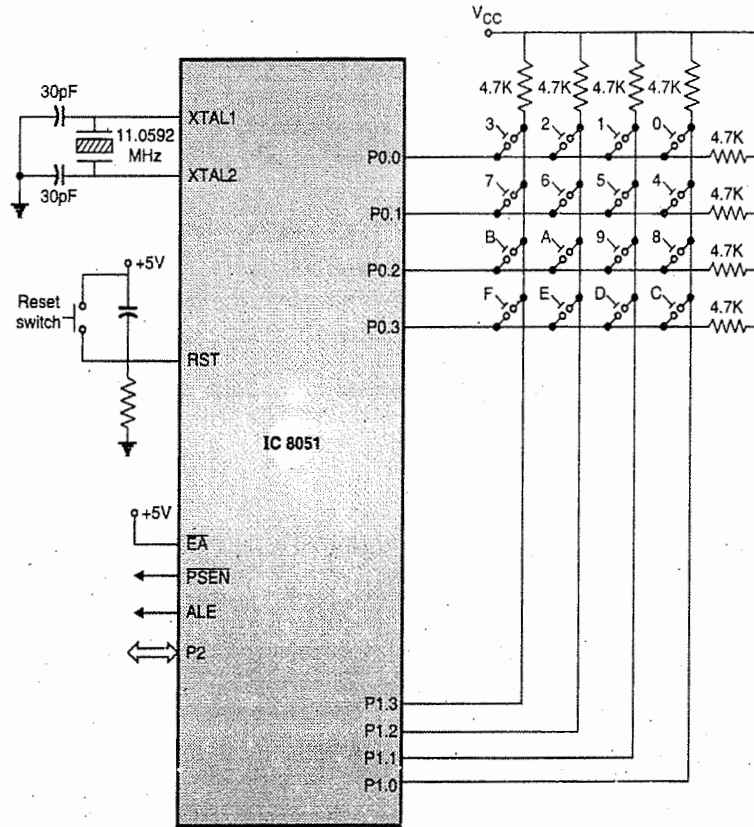

Fig. P. 2.4.2 : Interfacing 4 × 4 matrix keyboard to 8051
**Soln. :** Fig. P. 2.4.2 shows how a 4 x 4 matrix keyboard is connected to microcontroller 8051. The 4 x 4 matrix keyboard is connected to ports P0 and P1 of 8051. P1.0 to P1.3 are used as scan lines and P0.0 to P0.3 are used as return lines.